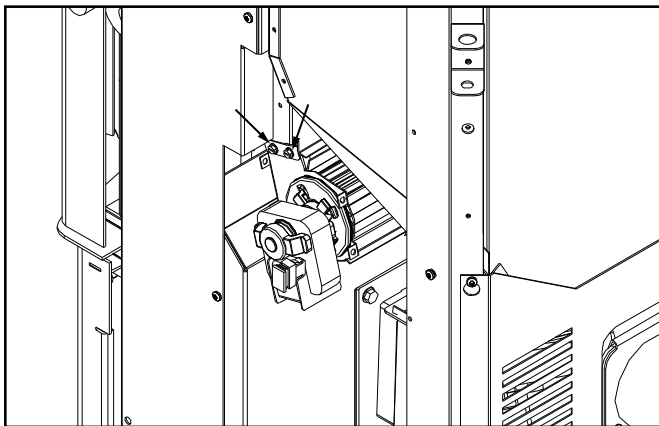

Figure 33: Behind the right cab panels.
3. Slide the fan into place between the bracket (see Figure 33 & 34).
4. Using a flat head screwdriver or a  $\frac{1}{4}$ " socket fasten the fan in place with two (2) screws on each side.